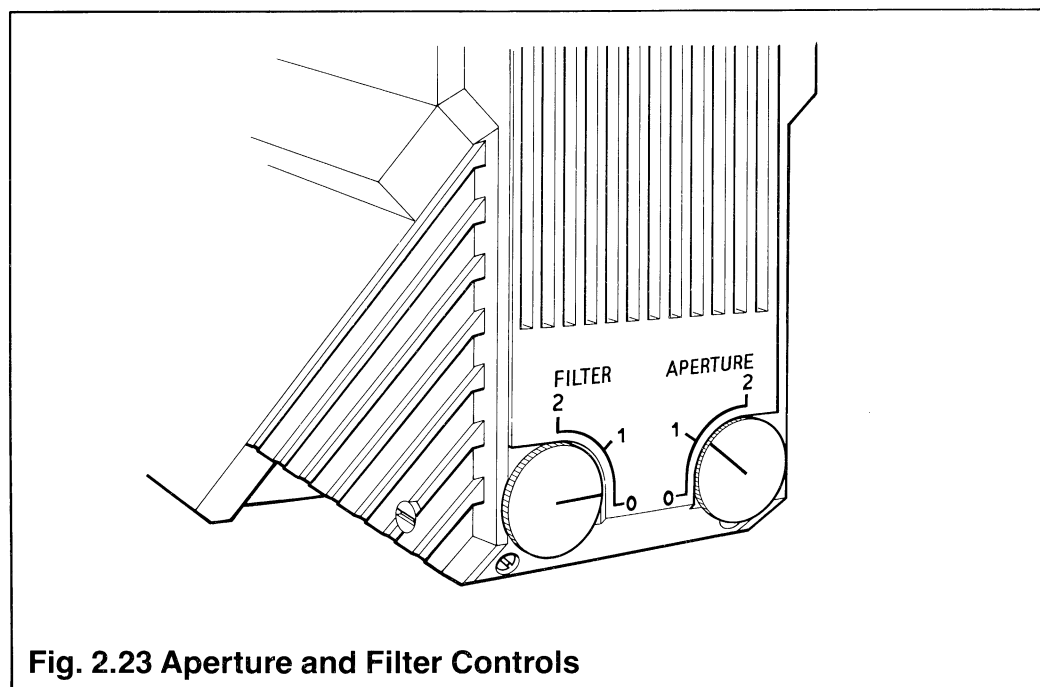

Fig. 2.23 Aperture and Filter Controls
Fitted at the back of the scanner assembly is an aperture control which has positions for three apertures (Fig. 2.23) marked 0, 1 and 2. The apertures are selected so that the object temperatures covering the range -20°C to $+1500^{\circ}\text{C}$ can be measured without the use of filters. Selection of a smaller aperture enables the operator to measure higher temperatures (approx. 50%). For the purpose of setting up the standard system for the first time set the aperture to the most sensitive setting (0).